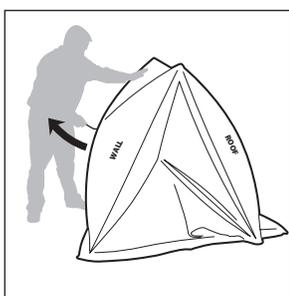

FIGURE 3
4. Grasp the webbing loop sewn onto the eyelet located in the center of one of the walls and pull outward so the wall pops open. **SEE FIGURE 3.**